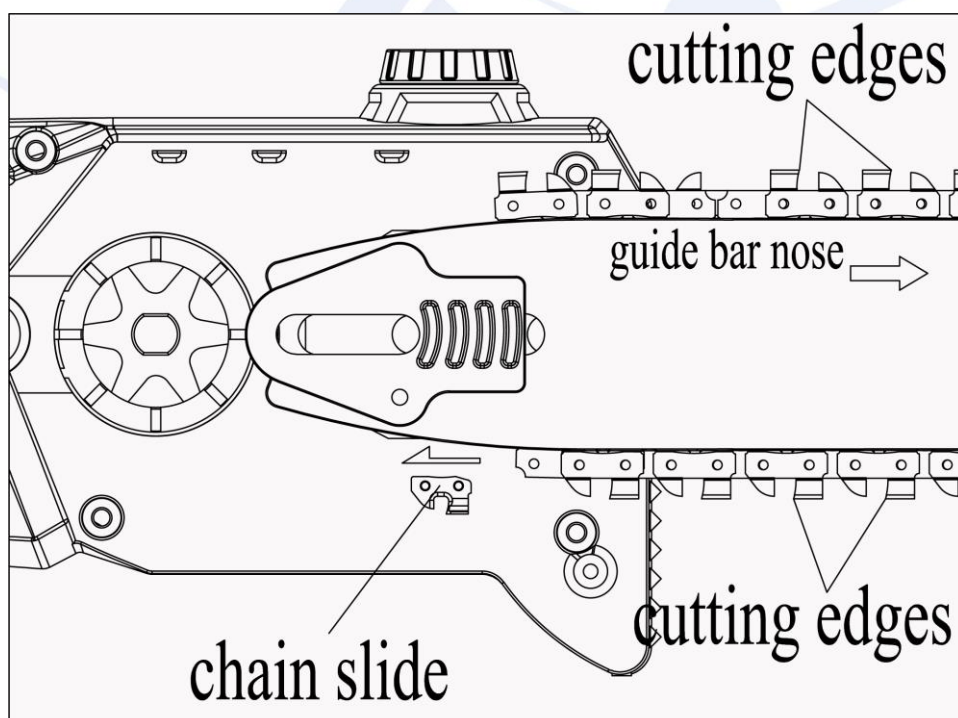

Fig.19
4. Place new chain around drive sprocket, along top groove of guide bar, and around guide bar nose. Note: Make sure cutting edges of chain are facing in right direction. Position chain so cutting edges on top of guide bar face guide bar nose (**see Fig 19 and indicator on side cover of saw**).